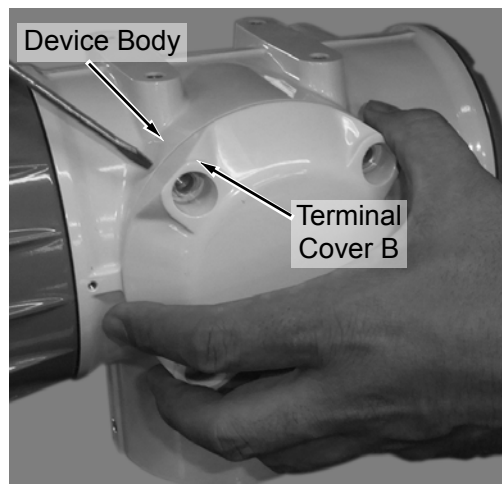

Figure 2.2—Terminal cover B being separated from device body
- b. Insert a flathead screwdriver between terminal cover B and the device body and gently pry off the terminal cover (Figure 2.2, page 10), being careful not to damage the socket and spigot joint.